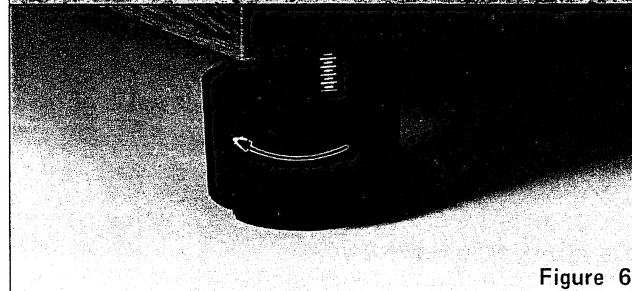

Figure 6
2. Four audio insulators are provided at the bottom of the unit so as to prevent howling (feed back whistle) from taking place. These insulators can be adjusted in height. Therefore, adjust their heights so that the unit is kept horizontal. If the insulators are turned in the direction of arrow shown in figure 6, the height of player board is increased.